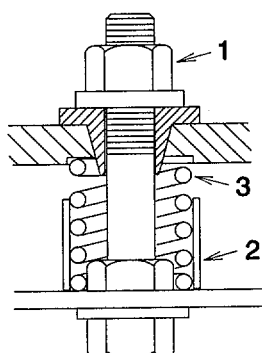

Figure 4-50. Compressor Mount
- b. Tighten four compressor mount lock nuts (1, fig. 4-50) just to the point where shipping brackets (2) cannot be removed from springs (3).